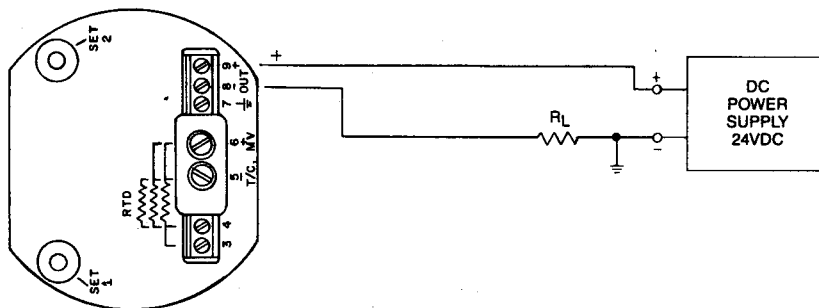

Figure 3-1
The output terminals, 8 & 9, are connected generally to a power supply having a nominal 24 Volt DC voltage and capable of supplying 21mA for the AI-1000. The +OUT and -OUT terminals of the transmitter are connected to the corresponding polarity terminals of the power supply. Optionally a load resistor, typically 250 ohms, may be connected in series with either terminal of the transmitter. Figure 3-1 shows a typical connection of the AI-1000 to the current loop.
With the power supply off, connect the + side of the power supply to the +OUT (9) terminal of the transmitter. Connect the - side of the power supply to the -OUT (8) terminal of the transmitter. Optionally a resistor, typically 250 ohms, may be added in series with either lead. See figure 3-1.